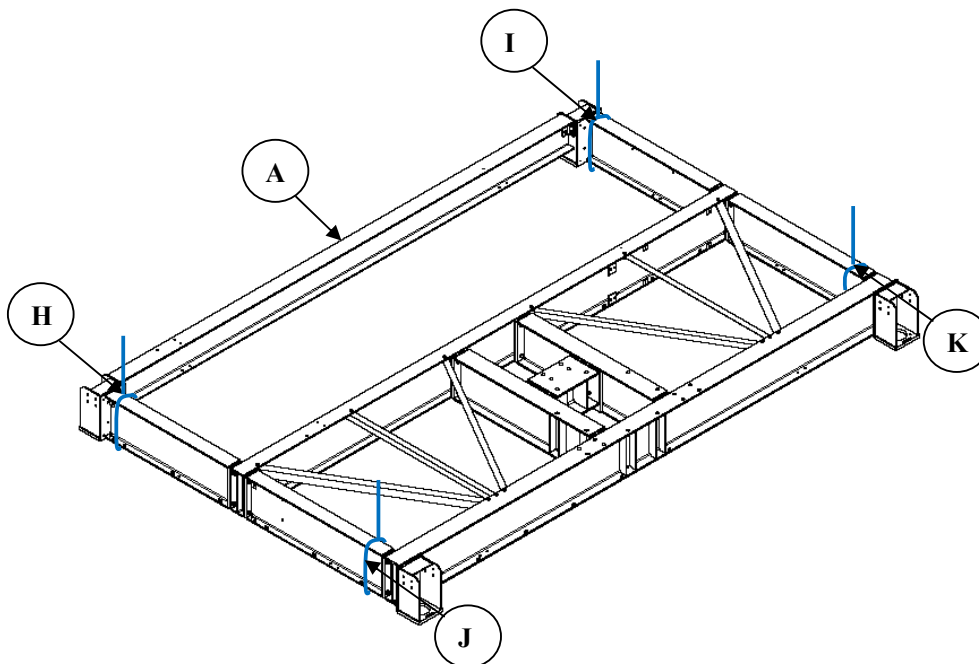

Figure 2 – Fully assembled frame with slings (in blue colour) attached to main beams for lifting.
- Secure the lifting slings around the main beams at point H to K as shown in Figure 2.